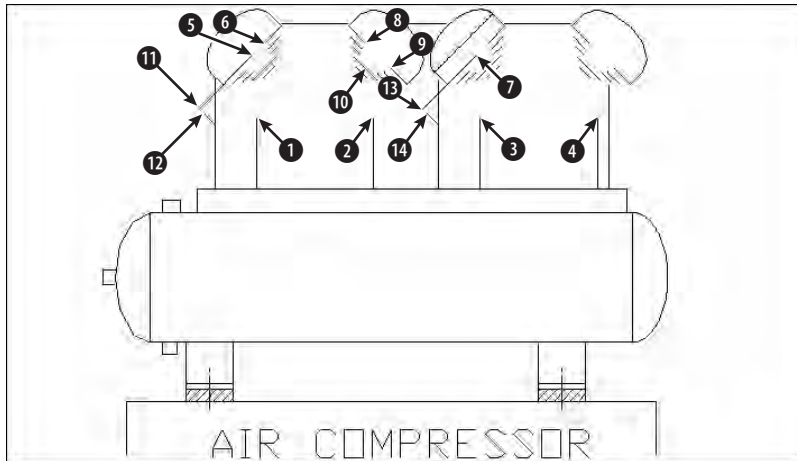

Figure 7-1: The air compressor without its circles
3.  Choose Circle from the Draw toolbar. Right-click and choose 2P from the shortcut menu. At the Specify first end point of circle's diameter: prompt, pick the endpoint at ❶ in Figure 7-1. At the Specify second end point of circle's diameter: prompt, pick the endpoint at ❷.
4. Repeat the CIRCLE command by right-clicking and choosing Repeat Circle. Right-click and choose 2P from the shortcut menu. Pick the endpoints at ❸ and ❹ in Figure 7-1.
5. Repeat the CIRCLE command by pressing Enter. At the Specify center point for circle or [3P/2P/Ttr (tan tan radius)]: prompt, pick the endpoint at ❺. At the Specify radius of circle or [Diameter]: prompt, pick the endpoint at ❻.
6. Repeat the CIRCLE command. At the Specify center point for circle or [3P/2P/Ttr (tan tan radius)]: prompt, pick the endpoint at ❼. At the Specify radius of circle or [Diameter]: prompt, right-click and choose Diameter; then type .25 ↵.
7. Repeat the CIRCLE command by right-clicking and choosing Repeat Circle. At the Specify center point for circle or [3P/2P/Ttr (tan tan radius)]: prompt, right-click and choose 3P. At the Specify first point on circle: prompt, pick the endpoint at ❽ in Figure 7-1. At the Specify second point on circle: prompt, pick the endpoint at ❾. At the Specify third point on circle: prompt, choose a midpoint object snap and pick the midpoint at ❿.
12. Repeat Step 11, choosing the endpoint at 13 for the center of the circle and the endpoint at 14 for its radius, as shown in Figure 7-1.